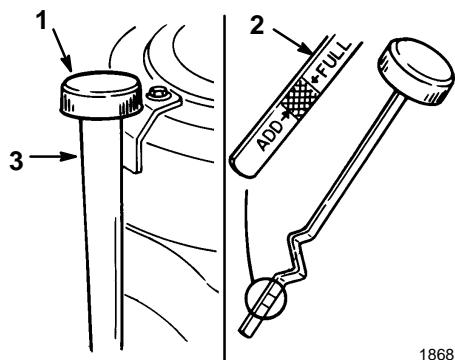

Figure 30
3. Clean around the oil dipstick (Fig. 30) so dirt cannot fall into the filler hole and damage the engine.
4. Unscrew the oil dipstick and wipe the metal end clean (Fig. 30).
- Screw the oil dipstick fully onto the filler tube (Fig. 30). Unscrew the dipstick again and look at the metal end. If oil level is low, slowly pour only enough oil into the filler tube to raise the level to the “FULL” mark.
- Slowly pour approximately 80% of the specified amount of oil into the filler tube (Fig. 30). Now check the oil level; refer to Checking Oil Level, page 30, steps 4–5.
5. Slowly pour approximately 80% of the specified amount of oil into the filler tube (Fig. 30). Now check the oil level; refer to Checking Oil Level, page 30, steps 4 and 5.